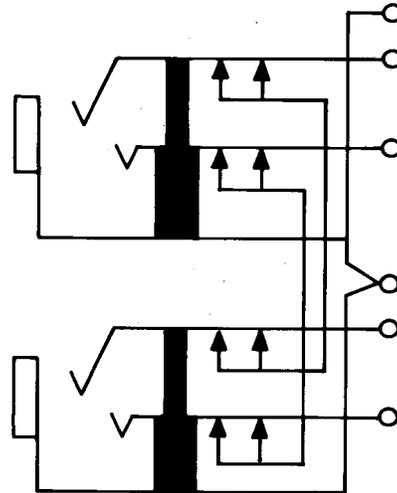

Fig. 13—482B or BM Jack
2.08 482B and BM: These single-mounted twin jacks (Fig. 13) have a single frame with two sleeves and are designed to be used with the 338 or similar-type plugs. The contact springs are equipped with No. 2 metal contacts.